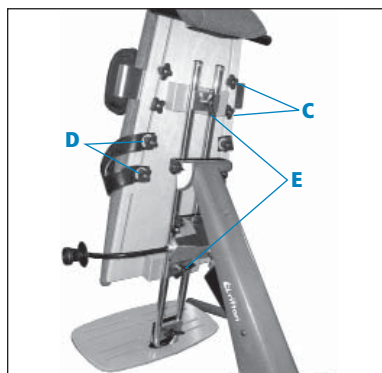

Figure 8b
- Retighten knobs (see Figure 8b).